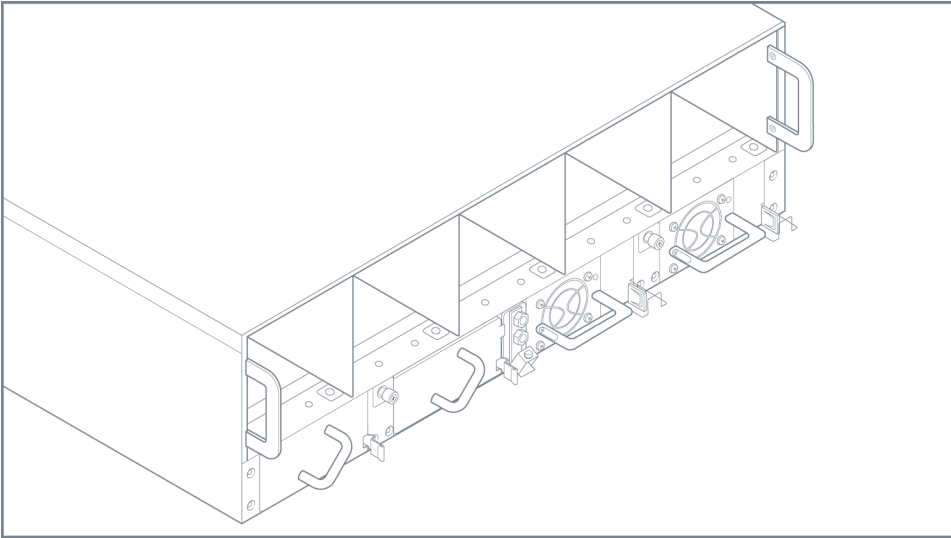

Figure 13: Fan Tray Inserted
3. Slide the fan tray in until it is flush with the chassis rear and will not slide in any further as shown in Figure 13: Fan Tray Inserted.